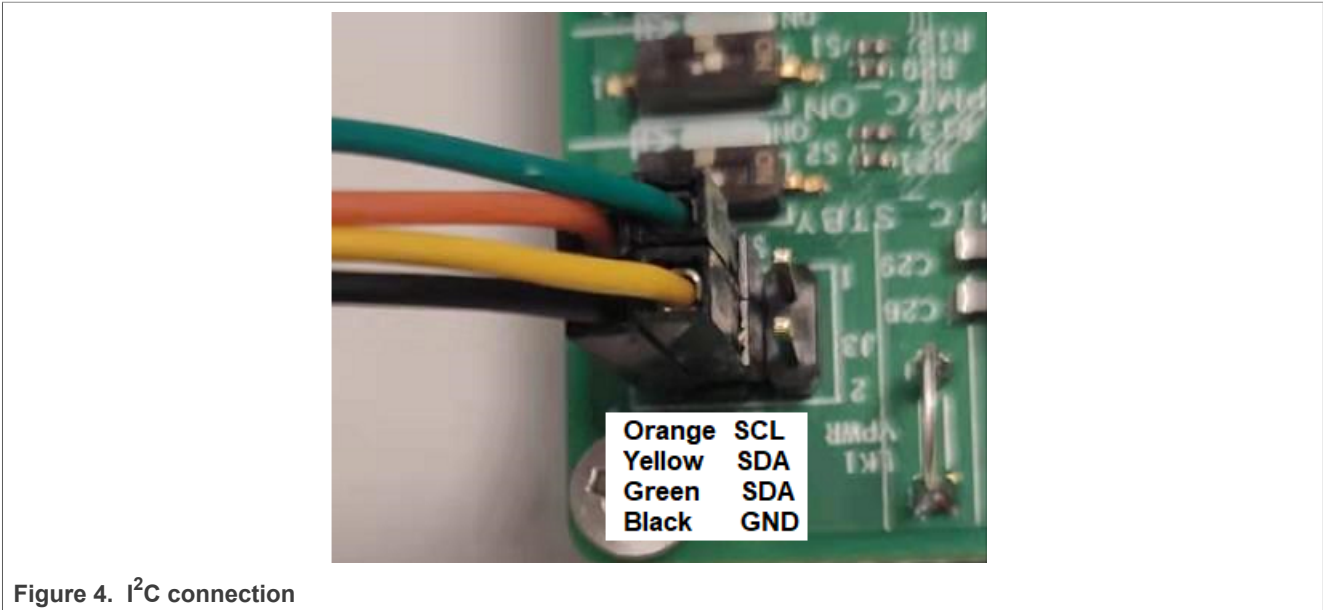

Figure 4. I²C connection
- SDA/SCL and GND – Connect to FTDI USB to I²C cable. See Figure 4.